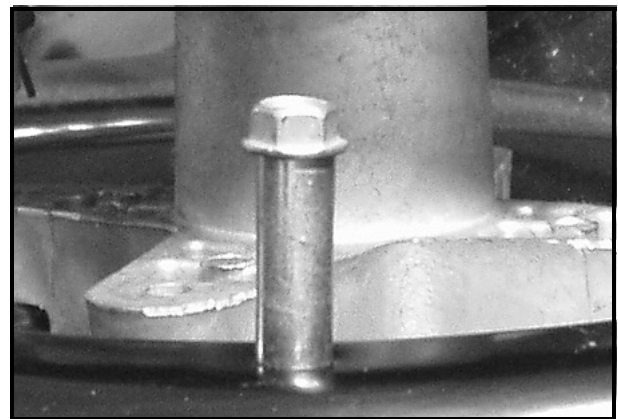

FIGURE 7
10. Using the 3/8" socket and ratchet, install the Tap-Tite screw with spacer in the hole. Ensure that the screw is perpendicular to the deck when installing. See Figure 7.